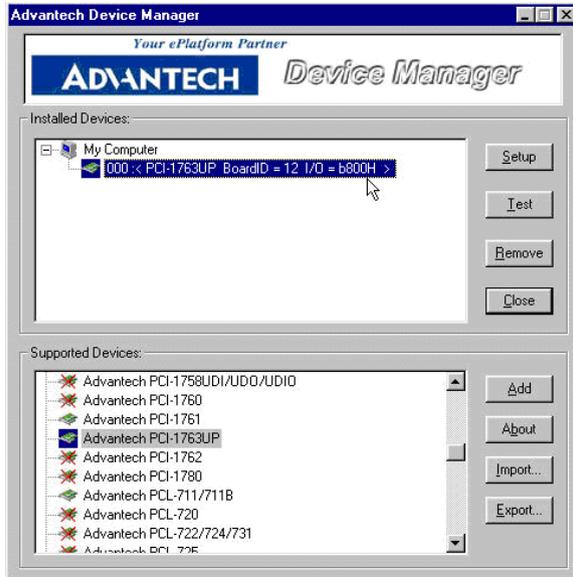

Figure 2.9: The Device Name Appearing on the List of Devices Box
Step 5: After you have finished configuring the device, click **OK** and the device name will appear in the *Installed Devices* box as seen in Fig. 2.9